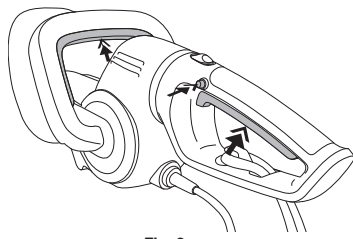

Fig. 3
- Press and hold the switch lock (Fig. 3). This makes the trigger switch operational.